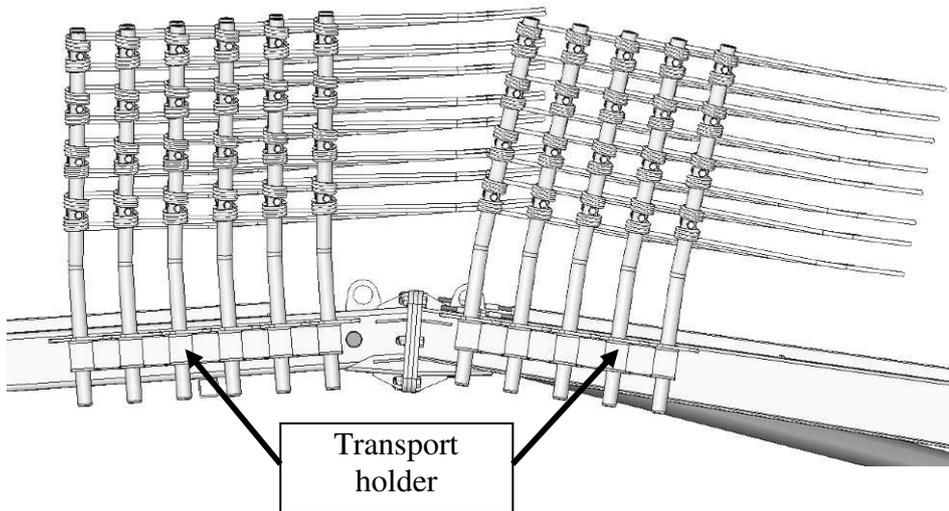

Fig. 19. Raking arms in transport holder
- Unlock, dismount and place raking arms in transport holder (Fig. 19),